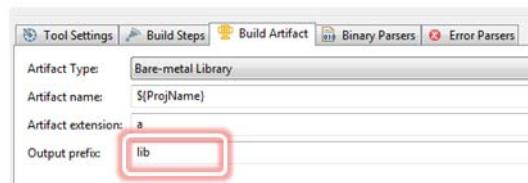

Figure 30: Build Artifacts Settings
- Click the **Build Artifacts** tab and make the following settings (also shown in Figure 30):